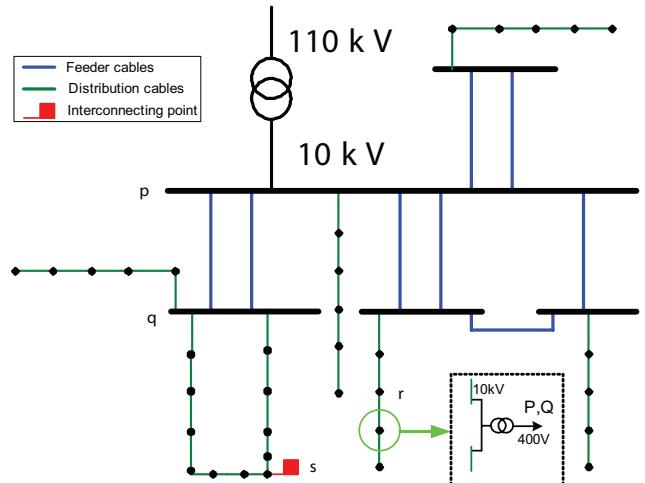
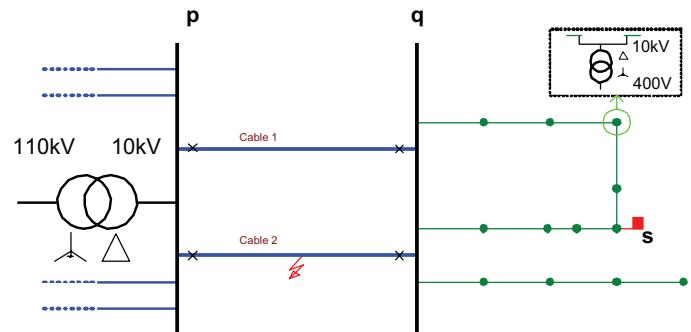
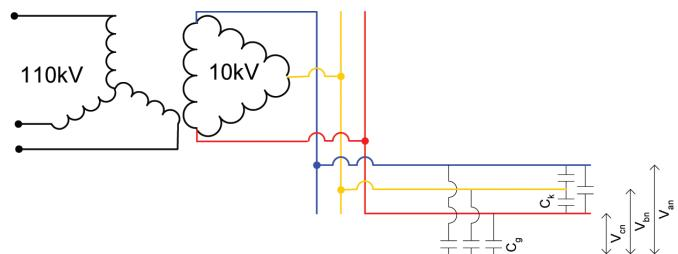
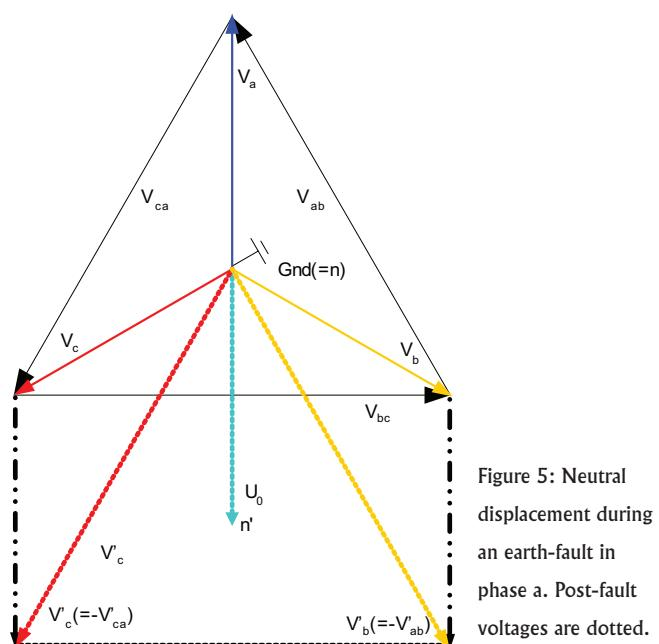

Figure 1: A typical radial MV network
Figure 3: Simplified MV network with two feeder cables between node p and q; an earth fault is present in cable 2.
Figure 4: The neutral point of an ungrounded network is determined by the cables' distributed capacitances.
Figure 5: Neutral displacement during an earth-fault in phase a. Post-fault voltages are dotted.
The current electrical power system was formed over a period of about 120 years. Small isolated grids were combined to larger networks over the past 50 years to obtain better economical efficiency and a more reliable electricity supply. Consequently, electrical power is generated in a centralised way and transported through the high voltage (HV) grid and HV/MV transformers to the MV distribution network. Figure 1 depicts a simplified
As will be shown later on, the zero-sequence system is very important for earth-fault detection and interruption. First, let's have a look at Figure 3, which is in fact the left part of Figure 1. In this particular case, selective interruption of an earth-fault in cable 2 is considered, which means that the protection relays of cable 2 detect and interrupt the earth-fault while no other relay in the MV network may trip. It is important to notice that the transformer is connected wye-delta, which implies that system's neutral coupling is realised by the distributed capacitance of the cables, as is shown in Figure 4. For symmetrically distributed phases, the charging currents provide the neutral voltage to be equal to ground potential. Neutral displacement takes place during earth-faults and, depending on whether the short-circuit is bolted or not, the voltage triangle will shift "downwards" causing the voltage rise of  $\sqrt{3}$  in healthy phases, as depicted in Figure 5.